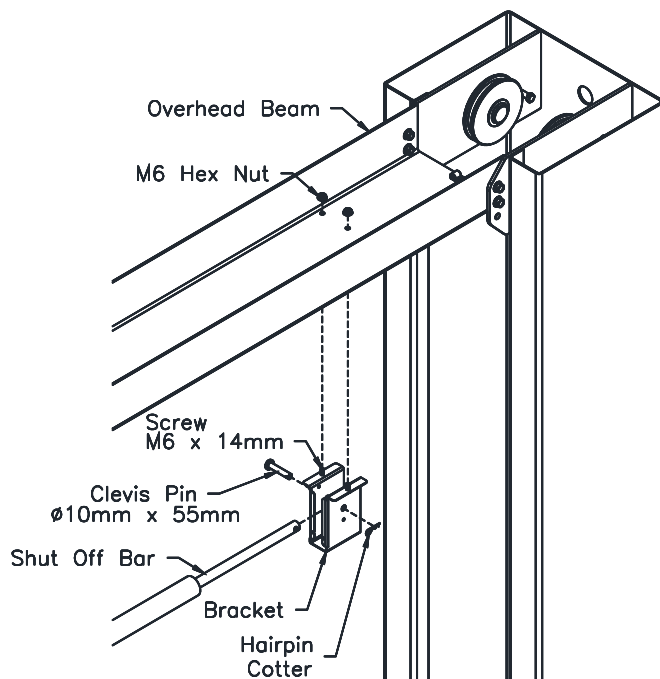

Fig. 6 – Overhead Bracket Idler Side
- 15) Install the Idler Bracket to the Overhead Beam using the rear set of holes on the Idler Side of the lift. **Fig. 6. Note the orientation of the Idler Bracket. The narrow slot needs to be facing towards the Power Column.** Slide the Shutoff Bar over the limit switch on the Power Side. Pin the Shutoff Bar to the Idler Side Bracket with the 10mm dia. x 55mm Lg. clevis pin & hairpin cotter.